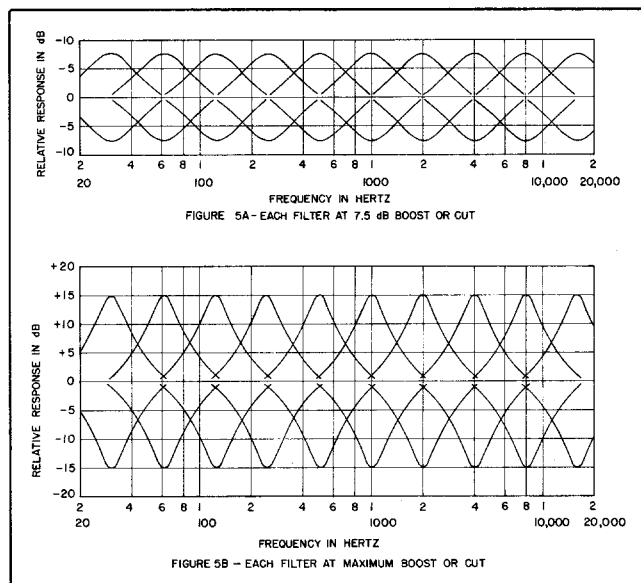

FIGURE 5.
The next stage is an input amplifier which has a gain of 14 to 34 dB depending on the setting of the rear panel GAIN Control (12). The output of the amplifier is fed to two cascaded differential amplifier stages which comprise the equalizer boost and cut circuitry. The individual active gyrator resonators for 31 Hz, 125 Hz, 500 Hz, 2 kHz and 8 kHz are connected to the first of the differential amplifiers and provide control of these frequency bands. The second amplifier is connected to the 63 Hz, 250 Hz, 1 kHz, 4 kHz, and 16 kHz active resonators for control of the remaining five frequency bands. Each of the ten octave-spaced filters is equipped with a front panel Filter Control (1) which may be adjusted for up to 15 dB boost or cut relative to its zero or flat position (see Figure 5). This configuration of minimum-phase networks assures correct filter characteristic combinations, minimum amplitude ripple, and minimum phase shift.